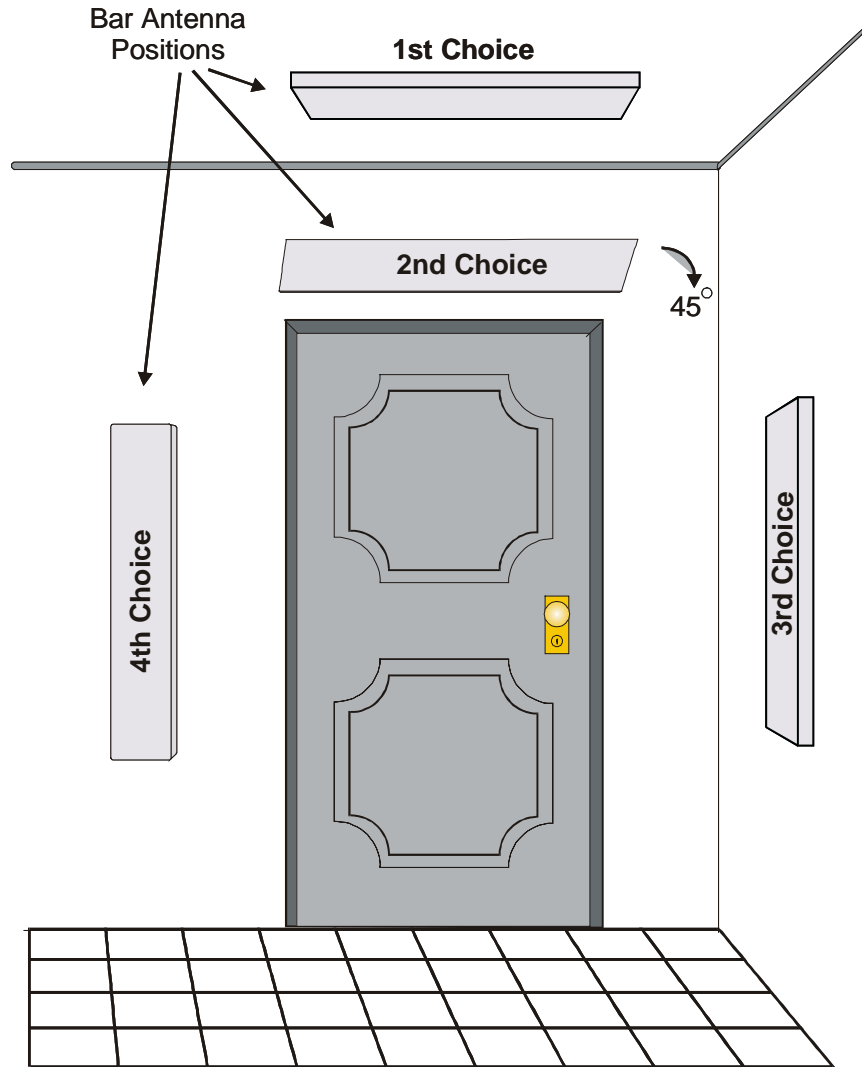

Figure 29 Installation points for the Bar Antenna
- The ATU should be located no more than 20 feet (cable length) from the antenna. A good location is directly above the doorway where the Bar Antenna is to be installed – above the ceiling tiles if desired, but accessible for tuning (Figure 29)
IMPORTANT! Test each position shown in Figure 29. Tilting the Bar Antenna may also improve performance.